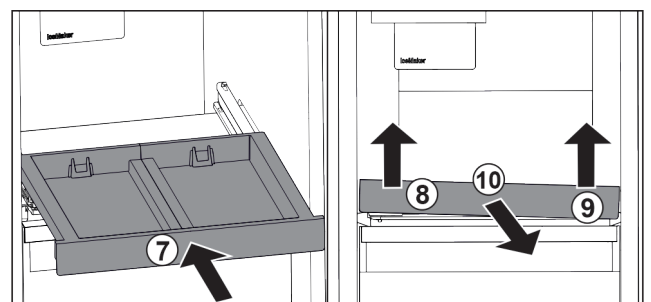

Fig. 102
- Slide in the pull-out board. Fig. 102 (7)
- Lift the pull-out board on the front left. Fig. 102 (8)
- ▶ Lift the pull-out board on the front right. *Fig. 102 (9)*
- ▶ Take out the pull-out board to the front. *Fig. 102 (10)*